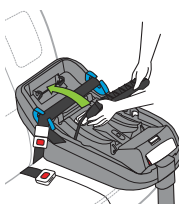

Figure 62b
- Rotate Belt Tensioner toward the back of the vehicle as shown in **Figure 62b**, and use both hands push down firmly to lock the Belt Tensioner.